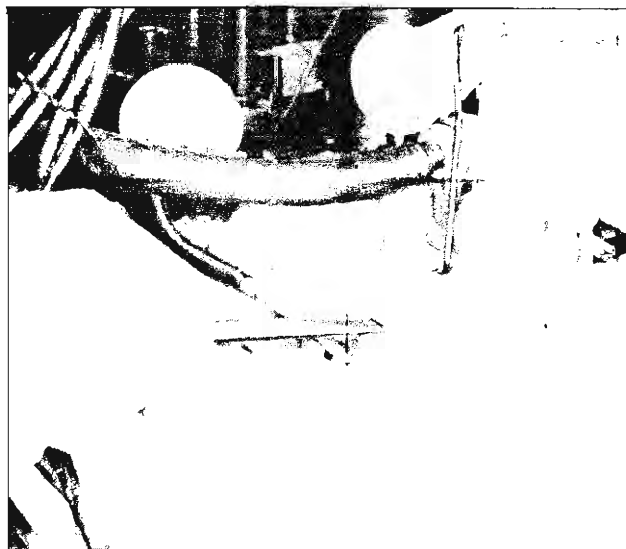

Fig. 31—Removing Choke Cover
- Remove shield by prying with screwdriver in cut-out provided (fig. 31).